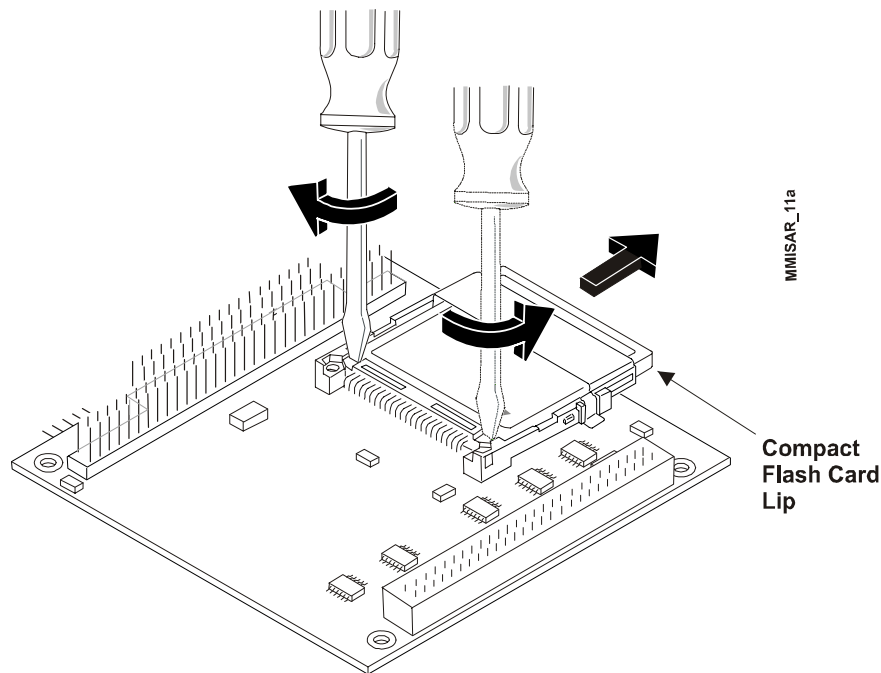

Figure 3-3. Removing the Compact Flash Card
4. Turn over the MiniModule ISA over to access the bottom of the board and lay it on a flat anti-static surface. See Figure 3-3.
5. Insert a flat head screw driver between the compact flash card and the socket and turn the screw driver as shown in Figure 3-3.